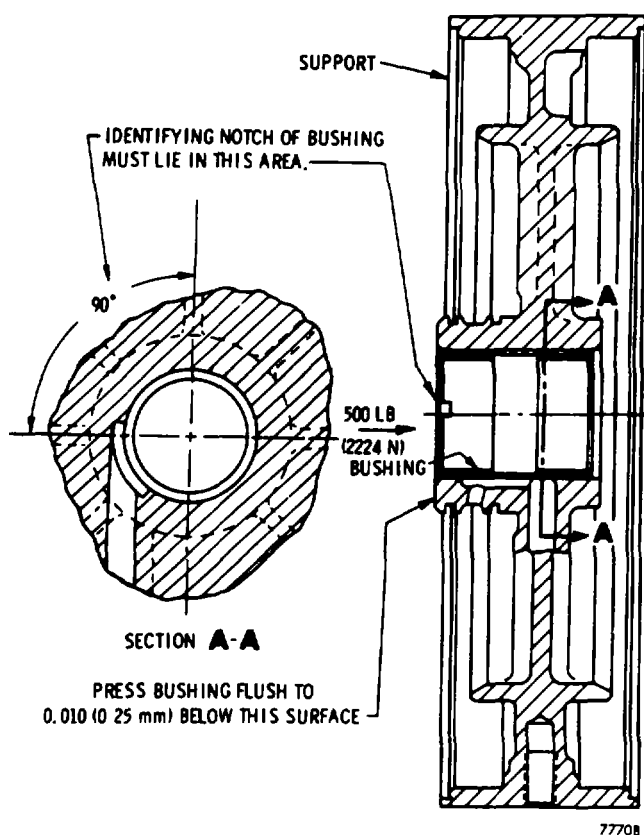

Fig. 6-52. Center support assembly
(2) If a special bushing tool is not available, press bushing 14 flush to 0.010 inch (0.25 mm) below the surface adjacent to the bore. The bushing must withstand 500 pounds (2224 N) of end load specified in the direction of arrow A in figure 6-52 after assembly. To ensure proper alignment of the oil hole in bushing 14 with the notch in support 15, the identifying notch of the bushing must lie in the area indicated in figure 6-52.
(3) Place pistons 9 and 18 (A, fold-out 7) on the work table, with the four ejector pin bosses upward. Install piston return springs 8 in the twelve holes in third clutch piston 9. Install piston return springs 19 in the twelve holes in second clutch piston 18.